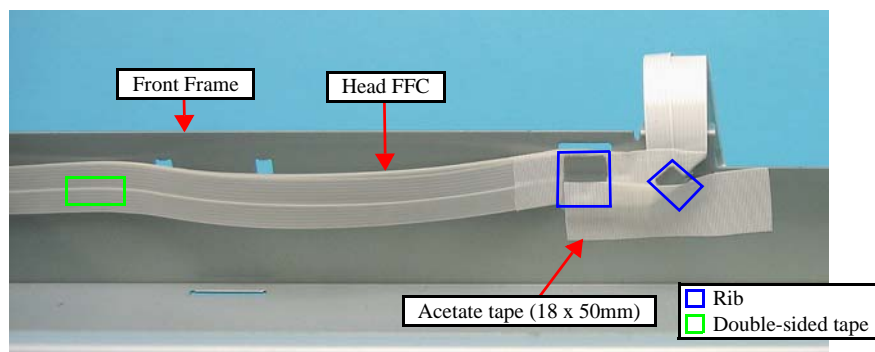

Figure 4-86. Removing the CR Unit (1)
- When installing the CR Unit, route the Head FFC through the ribs (x2) of the Front Frame, and secure it with acetate tape and double-sided tape. (See Figure 4-86.)
- After installing the Head FFC as shown, move the carriage several times and confirm that the FFC is free from too much tension or slack. (See Figure 4-86.)
1. Release the Head FFC from the Front Frame. (See Figure 4-86.)
- After installing the Head FFC as shown, move the carriage several times and confirm that the FFC is free too much tension or slack. (See Figure 4-86.)